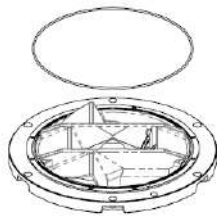

Figure 5-24
- Take out the old gasket from the seal groove of the upper cover (see Figure 5-24);